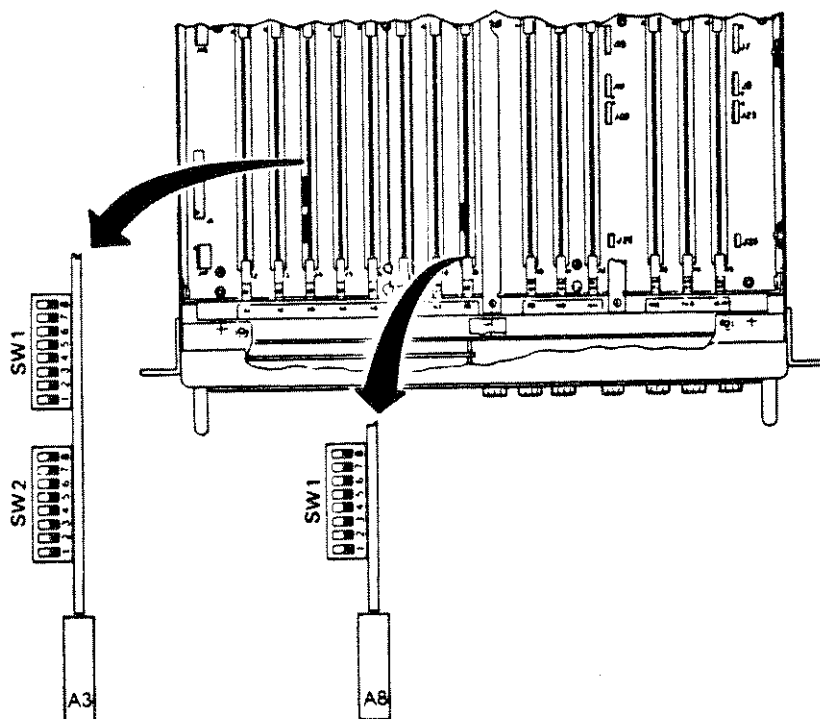

Figure 2-4. Optional Function Switch Locations
**2-8.3 Model 225 Device Clear (DCL) Options.** The Device Clear Option switches provide selection of Model 225 remote mode emulation default settings for Mode, Range, Frequency, Voltage/Ratio, Offset, Variable Scale, and Data Format (paragraph 2-7.2). The 225 IEEE-488 remote program language option must be selected first (paragraph 2-8.2) or Device Clear Options will not function. Remove top cover and refer to table 4-22 to set circuit card A3 switches SW1 and SW2 accordingly. Refer to figure 2-4.
**2-8.4 Channel Selection for Phase Lock.** During DAV operation or when emulating the NAI Model 225 the REFERENCE or SIGNAL channel can be selected to generate a phase-lock signal. FUNDAMENTAL and TOTAL modes lock through the REFERENCE or SIGNAL channel as selected. Phase sensitive modes PHASE ANGLE, IN PHASE, and QUADRATURE always lock through the REFERENCE channel regardless of the position of switch A8 SW1-3. To select channel, remove top cover and set circuit card A8 switch SW1-3 as follows (figure 2-4):